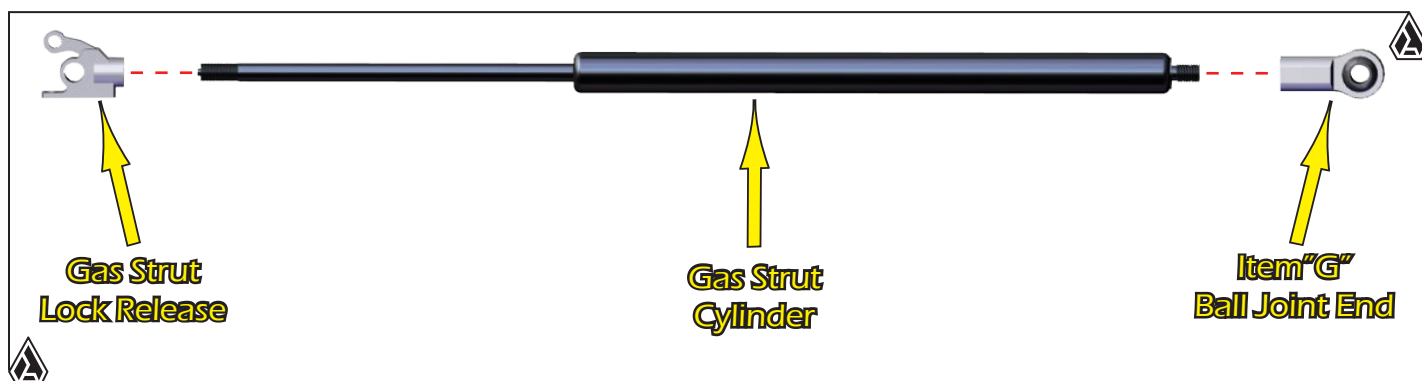

FIG.9
9. Now you can start on the Strut Cylinders. Find a Cylinder as shown in Fig.9. Then you install the **Lock Release** and **Item "G"** onto the ends of it. The Lock Release goes on the long rod side. Install it and secure it tightly. **Item "G"** goes on the short threaded end. Install it and secure it as well. See Fig.9.